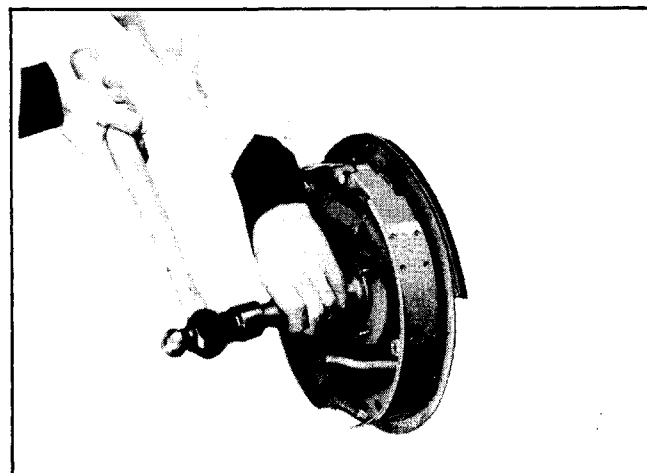

Fig. 4-9 Installing Oil Seal With Installer J-5818
8. Install new seal using Installer J-5818 (Fig. 4-9).